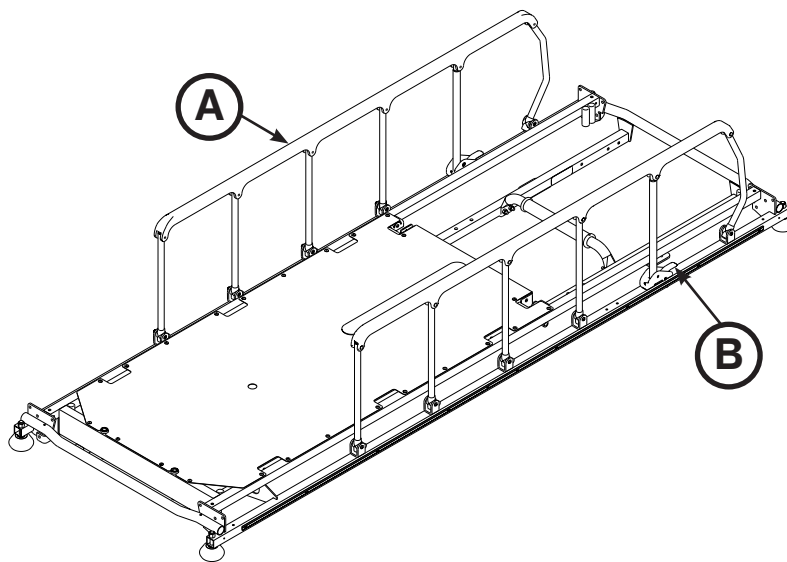

Figure 4: Siderails
To raise the siderails, pull up on the siderail (A) and raise it to the highest position until the latch (B) engages as shown in Figure 4.
To lower the siderails, pull up on the latch (B) and guide the siderail to the lowest position as shown in Figure 4.